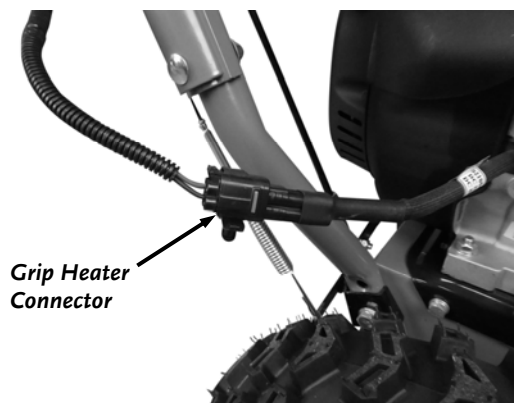

Figure 21
21. Use Wire Cutters to cut the Cable Tie that is securing the Heated Grip Connector and insert the Connector into the Harness Plug (**Figure 21**).